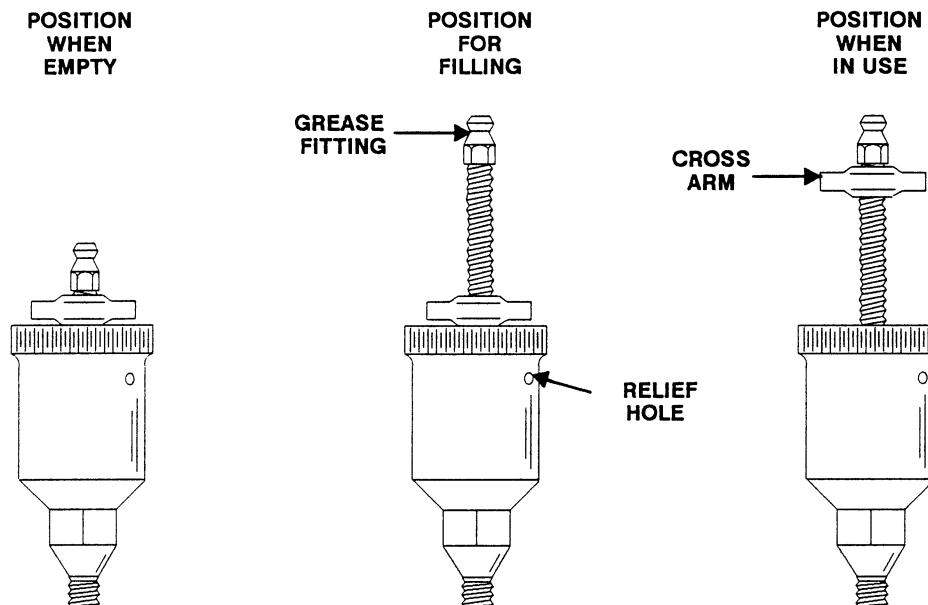

Figure 5. Automatic Lubricating Grease Cup
Fill the grease cup (10) through the grease fitting with No. 2 lithium base grease until grease escapes from the relief hole. Turn the grease cup arm counter-clockwise until it is at the top of the stem; this will release the spring to apply grease to the seal (see Figure 5).